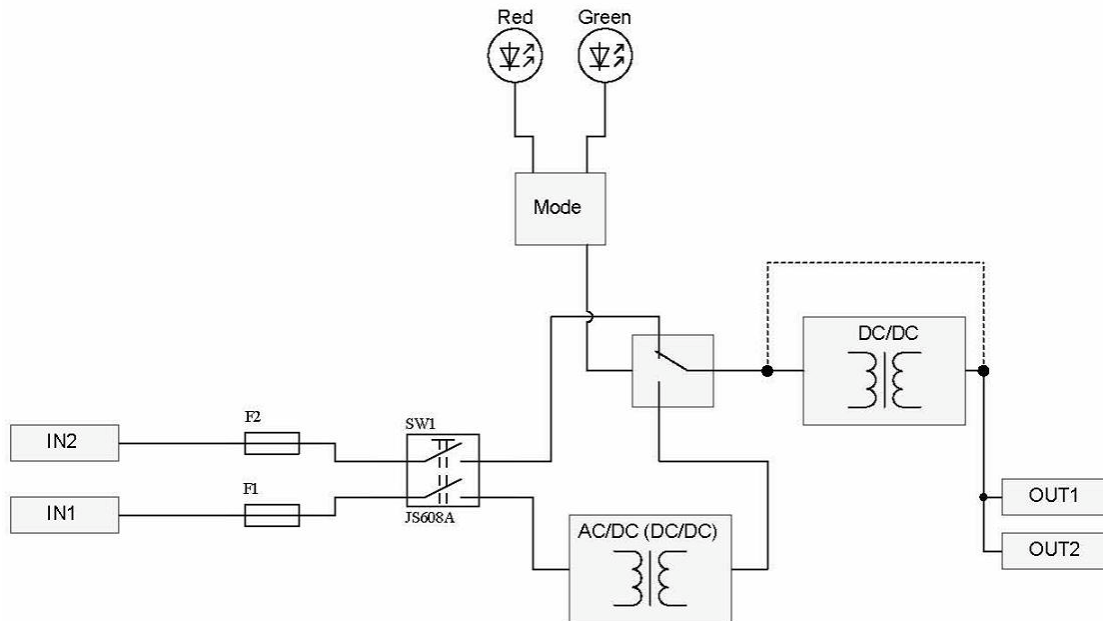

Figure 1 PS-303 structural diagram
The PS-303 has two inputs, i.e. input #1 for the main network and input #2 for the backup one, two terminals for the loads, and light emitting diodes indicating power supply from the main network or from the backup one (see Figure 1).
2. **This paragraph is applicable only to power supply units designed for the main supply of 110 or 220 V AC.** Check if the shipboard power supply meets the requirements of this Operating Manual (110 or 220 V AC). The PSU input-power factory setting is 220 V 50/60 Hz. If the main power supply of the PSU is going to be 110 V 50/60 Hz, 110 V should be selected on the power block of the PSU. To do that, move the voltage switch from 220 V to 110 V (right to left). The voltage switch is on the right side of the power block, where the PCB is (Figure 1). Unscrew the four bolts on the PCB sides, switch the power and place the PCB back.